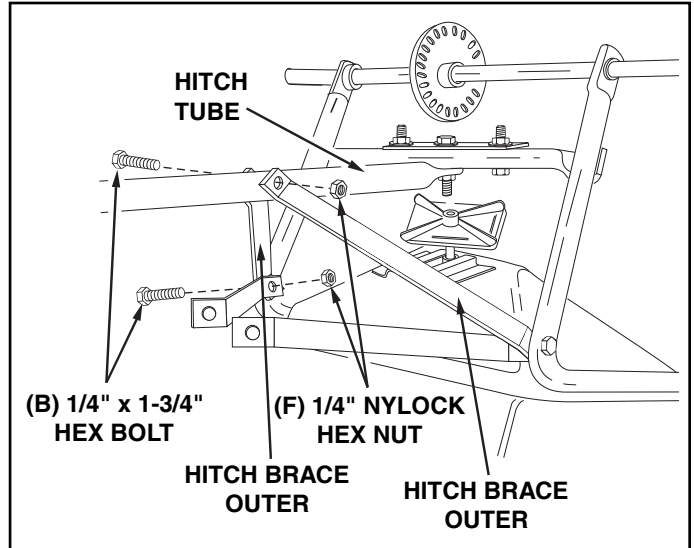

FIGURE 2
4. Assemble the four hitch braces in pairs to the inside of the hopper frame using a 1/4" x 1-3/4" hex bolt (B) and 1/4" nylock hex nut (F) on each side. **DO NOT TIGHTEN YET.** See figure 2.
5. Assemble the two **OUTER** hitch braces to the hitch tube using a 1/4" x 1-3/4" (B) hex bolt and a 1/4" nylock hex nut (F). **DO NOT TIGHTEN YET.** Do not assemble the inner hitch braces at this time. See figure 2.